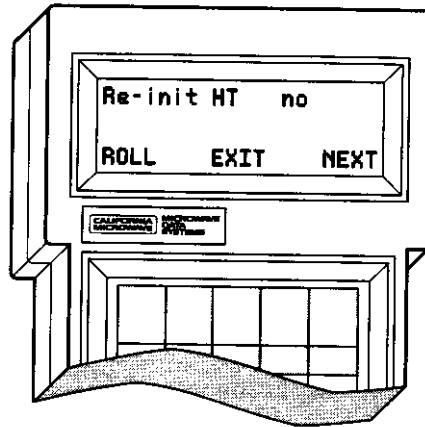

Figure 26. HHT setup display
- Plug the HHT into the DIAG(NOSTICS) connector. Enable the setup mode by pressing the **SHIFT**, **CTRL** and **SPACE** keys in sequence. The display shown in Figure 26 will appear.